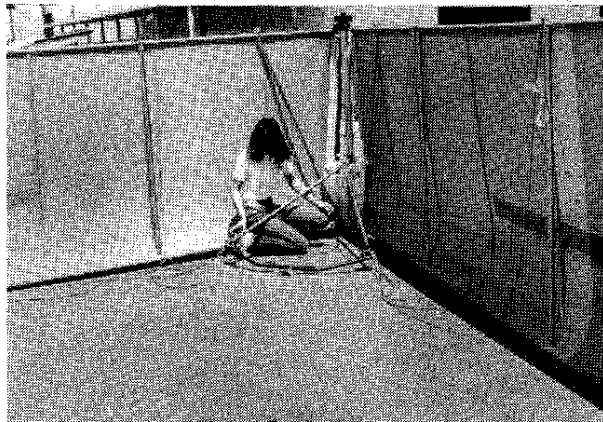

Figure 2.3
5. Open wings to form a 90° angle. **Figure 2.3**